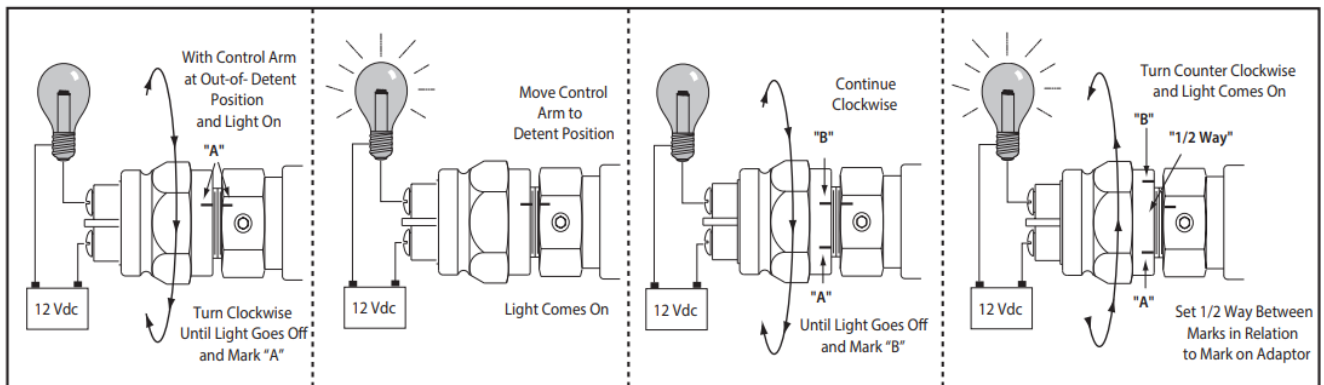

Figure 2-3
- **(c).** Screw the switch in until the light just goes off. Mark this as position “A” with two adjacent marks on the switch adapter. Refer below to figure 2-3. Move the control arm to the detent position and the test light should come back on.